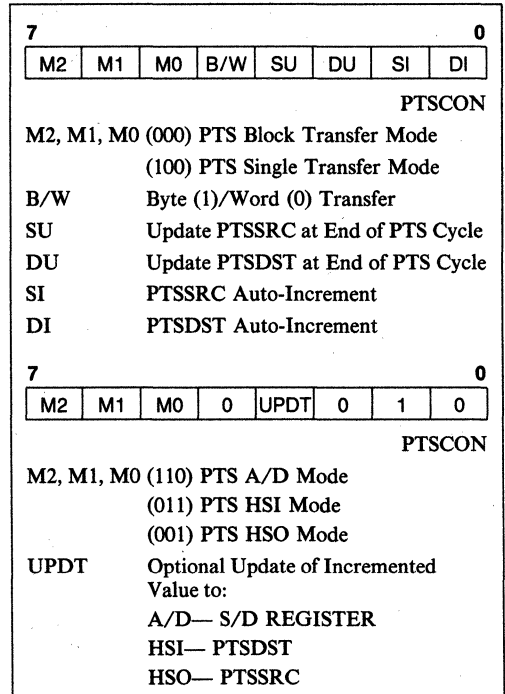

Figure 6-6. PTS Control Register Format
In the Single Transfer Mode, the PTSCB (Figure 6-3) contains control (PTSCON), source (PTSSRC), destination (PTSDST), and count (PTSCOUNT) registers. A single transfer may be a byte or word and the PTSSRC and PTSDST may be optionally incremented at the end of the PTS cycle (see PTSCON in Figure 6-6). The registers increment by 1 for a byte transfer or by 2 for a word transfer. In the single transfer mode, both the auto-increment (SI, DI) and update bits (SU, DU) must be set if either PTSSRC or PTSDST are to be incremented.
This same task can easily be accomplished using the PTS channel associated with the TI interrupt with much less CPU overhead. The PTS channel is set up to do a single byte transfer on every TI PTS request. The PTSDST register always points to SBUF and does not increment. The PTSSRC register points to the beginning of the block of memory and is set up to increment every PTS cycle. The code to set up the PTS channel and the End-of-PTS interrupt is shown in Figure 6-6. It takes 64 state times to set up the PTS channel, 21 state times to transfer each byte, and 54 state times for the End-of-PTS interrupt for a grand total of 2721 state times (64 + 127 (21) + 54). This reduces the software overhead of this task by 75% compared to an Interrupt Service Routine.
For a PTS Block Transfer, the PTSCB (Figure 6-3) contains all the same registers as the Single Transfer Mode with the addition of a block count (PTSBLOCK) register. The PTSCON also retains the same format as the Single Transfer Mode (see Figure 6-6).